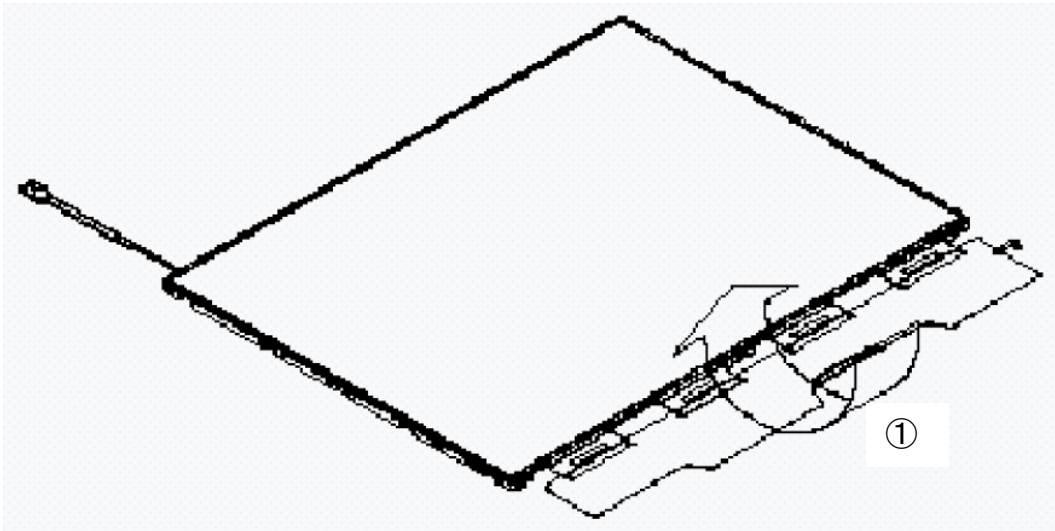

Figure 4-76 Replacing TMD fluorescent lamp (XGA) (8)
1. Fold down the TAB (PCB) toward the reverse side of the backlight unit, as shown in Figure 4-76.